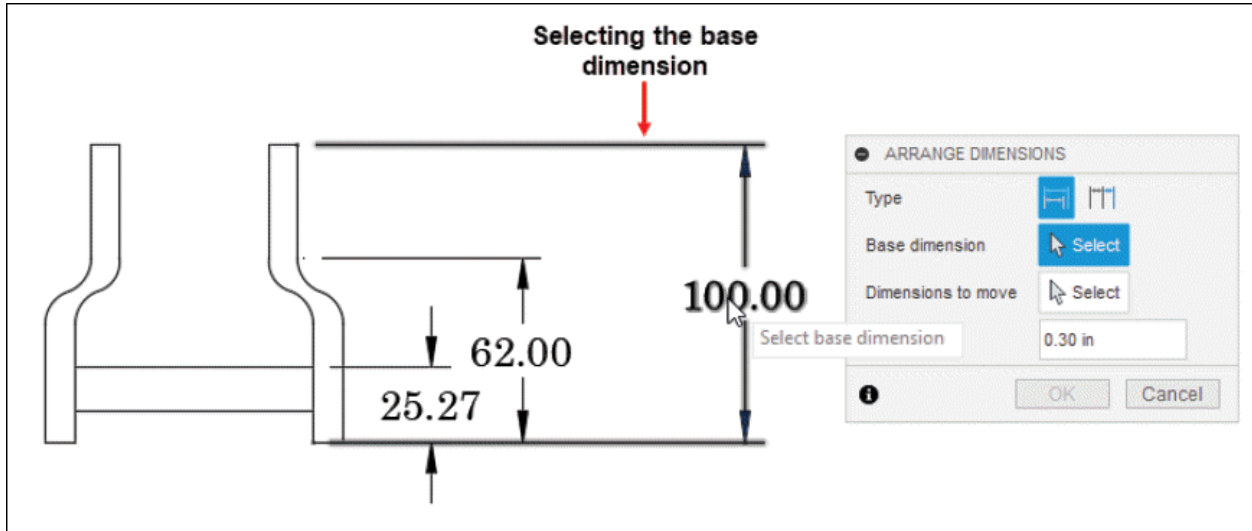

Figure-73. Selecting the base dimension
- The **Base dimension** selection option is active by default. Select the base dimension that all other dimensions will be stacked above/below; refer to Figure-73.